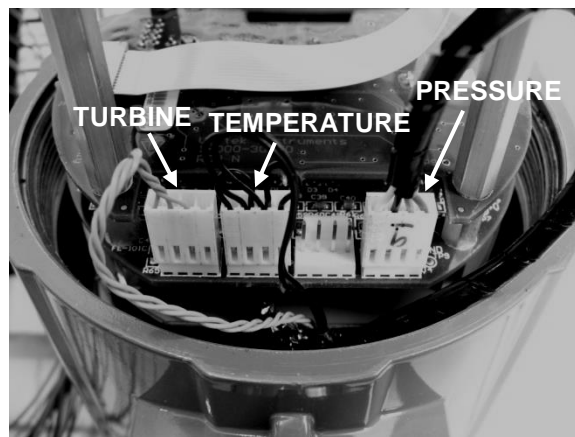

Figure 5-1. Electronics Stack Sensor Connections
3. Using ESD precautions and hazardous area precautions, remove the electronics enclosure window cover. Disconnect the turbine sensor from the electronics stack or remote feed through board. Refer to Figure 5-1 or 5-2. Measure the resistance between the outside pins – the resistance should be around 100 ohms. Measure the resistance from the center pin to the meter ground – the resistance should be less than 1 ohm.
3. Using ESD precautions and hazardous area precautions, remove the electronics enclosure window cover. Disconnect the temperature sensor from the electronics stack or the remote feed through board. Refer to Figure 5-1,5-2 and 5-4. Measure the resistance across the outside pins of the temperature sensor connector. It should read approximately 1080 ohms at room temperature (higher resistance at higher temperatures). Measure the resistance across the inside pins, they should read the same.
3. Locate the sensor harnesses which come up from the neck of the flow meter and attaches to the circuit boards. Make note of the location of each sensor connection. Refer to figures 5-1 and 5-2. The turbine sensor connection is on the left, the temperature sensor connection (if present) is second from the left, and the pressure sensor connection (if present) is the right most connector. Use small pliers to pull the sensor wiring connectors off of the circuit boards.